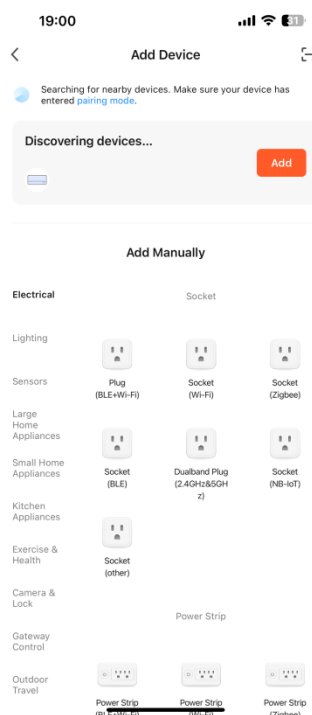

Fig.5
3.4. To accelerate pairing with Bluetooth devices, the app supports the automatic discovery of nearby Bluetooth devices. Once the Home page is opened, the app automatically searches for Bluetooth devices pending pairing and shows discovered Bluetooth devices in a dialog box. (Fig.5)